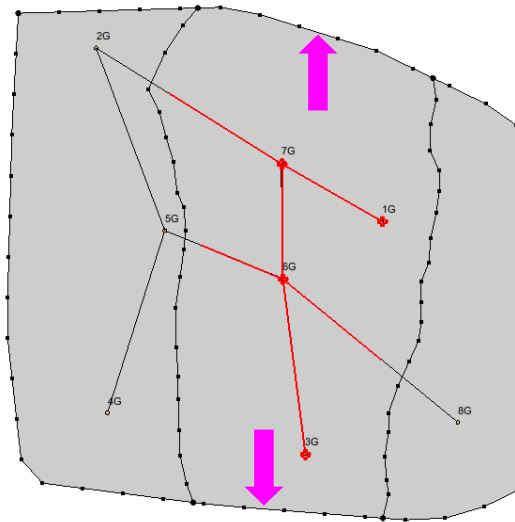

Figure 4 Outside-boundary arcs
1. Using the **Select** tool, hold down the *Shift* key and select the two arcs identified by the arrows shown in Figure 4.